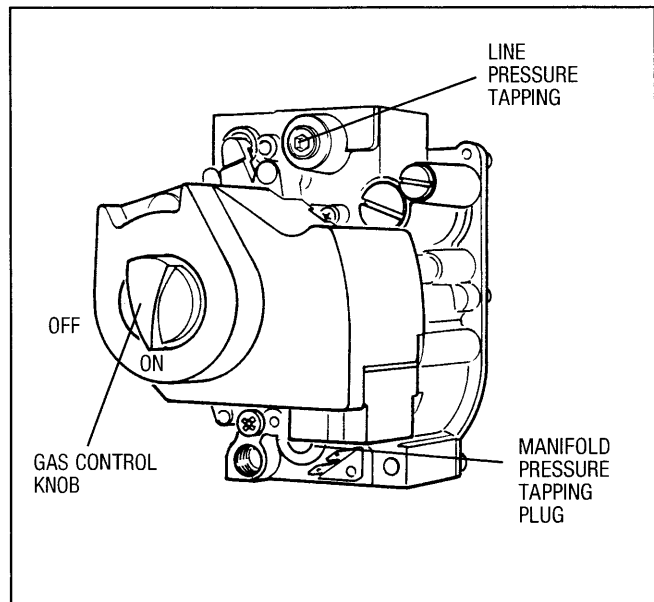

Fig. 9
8. Shut off the main gas supply shutoff valve. Remove the line pressure tapping plug from gas control, fig. 9; install a test fitting and hook up a manometer so that line pressure can be checked.
9. Remove the manifold pressure tapping plug from the gas control, install a test fitting and hook up a manometer so that manifold pressure can be checked, fig. 9.